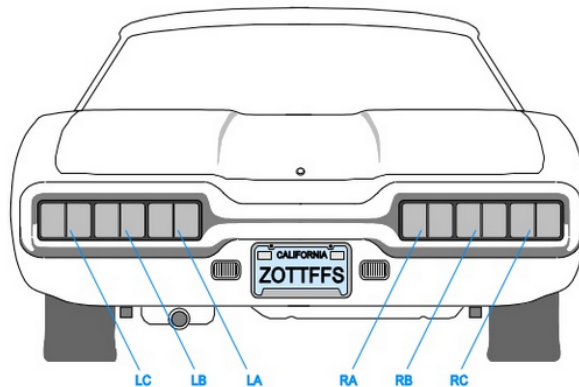

Figure 1
**Problem Statement:** Design a state machine to control the tail lights of a 1965 Ford Thunder bird (Figure 1). The tail lights are composed of three lights on each side which operate for the turns as shown in figure 2. The state machine has two inputs (**LEFT, RIGHT**) and 6 outputs (**LC, LB, LA, RA, RB and RC**). When (**RIGHT=0 and LEFT=0**) or when (**RIGHT=1 and LEFT=1**) no lights will turn ON. If (**RIGHT=0 and LEFT=1**) then lights LC, LB, and LA will be ON as shown in figure 2(a) indicating **LEFT** turn. If (**RIGHT=1 and LEFT=0**) then lights RA, RB, and RC will be ON as shown in figure 2(b) indicating **RIGHT** turn. In addition to LEFT and RIGHT there are two more inputs **Clk** and **Reset** for normal operation of FSM. When **Reset** is enabled all lights will be OFF. The flashing rate of LEDs is 2Hz (i.e. the time between two successive states is 0.5s).